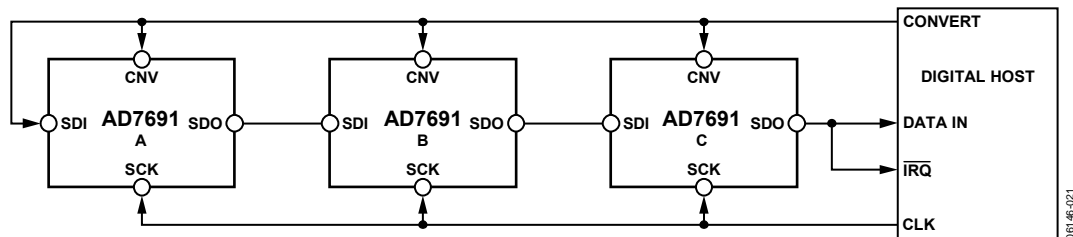
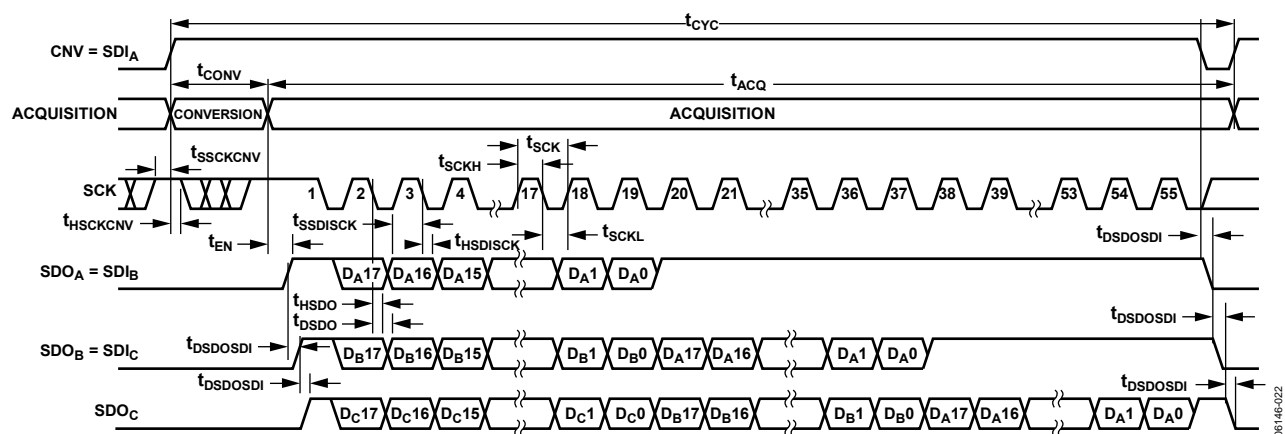

Figure 45. Chain Mode with Busy Indicator Connection Diagram
Figure 46. Chain Mode with Busy Indicator Serial Interface Timing
- In the chain mode if SCK is high during the CNV rising edge (see Figure 46).
A connection diagram example using three AD7691 devices is shown in Figure 45, and the corresponding timing is given in Figure 46.
completed their conversions, the SDO pin of the ADC closest to the digital host (see the AD7691 ADC labeled C in Figure 45) is driven high. This transition on SDO can be used as a busy indicator to trigger the data readback controlled by the digital host. The AD7691 then enters the acquisition phase and powers down. The data bits stored in the internal shift register are clocked out, MSB first, by subsequent SCK falling edges. For each ADC, SDI feeds the input of the internal shift register and is clocked by the SCK falling edge. Each ADC in the chain outputs its data MSB first, and $18 \times N + 1$ clocks are required to readback the N ADCs. Although the rising edge can be used to capture the data, a digital host using the SCK falling edge allows a faster reading rate and, consequently, more AD7691 devices in the chain, provided the digital host has an acceptable hold time.